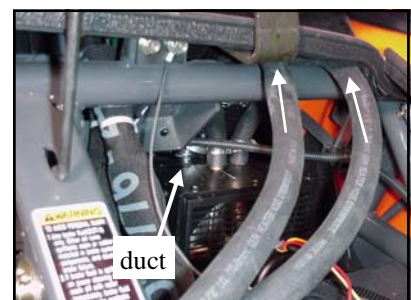

Figure 4
- 3.1 (See figures 4, 5 and 6). Route one end of the supplied heater hose over the round frame tube next to the hood hinge and install to one of the copper tubes on the top of the heater using one of the supplied 1" hose clamps. Route the hose to the underside of the vehicle and along the driver's side frame rail following the existing wiring harness as shown.
- 3.3 (See figures 4, 5 and 8). Attach one end of the remaining piece of hose to the other copper tube on the top of the heater and route in the same manner as the hose in the previous step. Continue this hose up the front of the engine as shown.